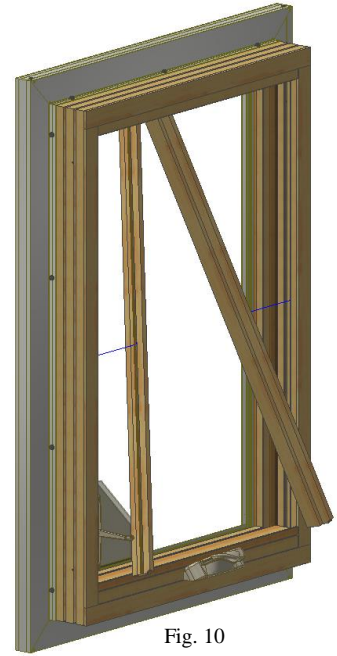

Fig. 10
- A. Using a putty knife, carefully remove the side inside stops from the interior of the window. Set them aside. (Fig. 10)